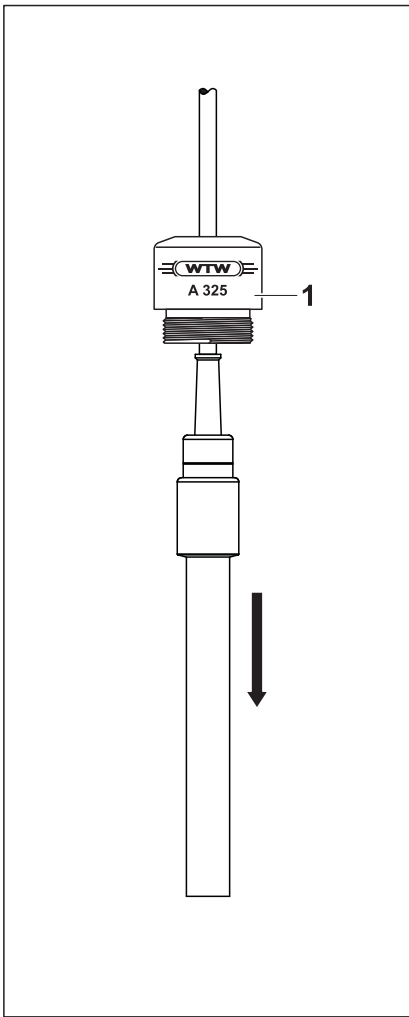

Figure 1
1	Push the sensor through the armature (pos. 1 in figure 1).